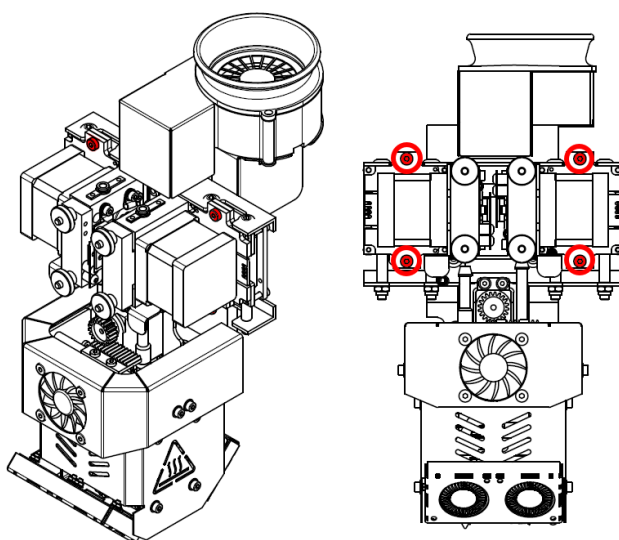

Fig. 61 Locations of the extruder fixing screws
4. Unscrew two extruder fixing screws securing the extruder to the extruder seat, located above and under the extruder (fig. 61)